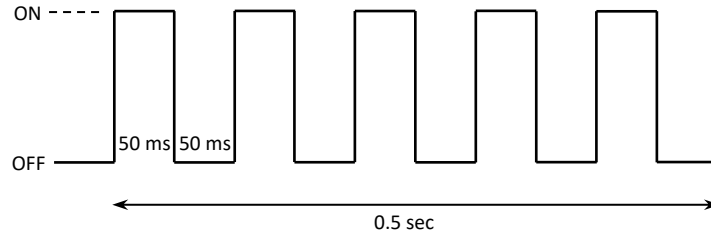

Figure 1-6: The GREEN LED Pattern After a Failed POST
- b. If the POST fails, **GREEN** is toggled ON and OFF every 50 ms for 0.5 seconds, as shown in Figure 1-6. If this is the case, the Tracker will not go on to the join procedure in step 3 but will repeat the pattern in Figure 1-6 every 5-10 seconds indefinitely. A failed POST means the device is damaged in some way, and cannot normally function.